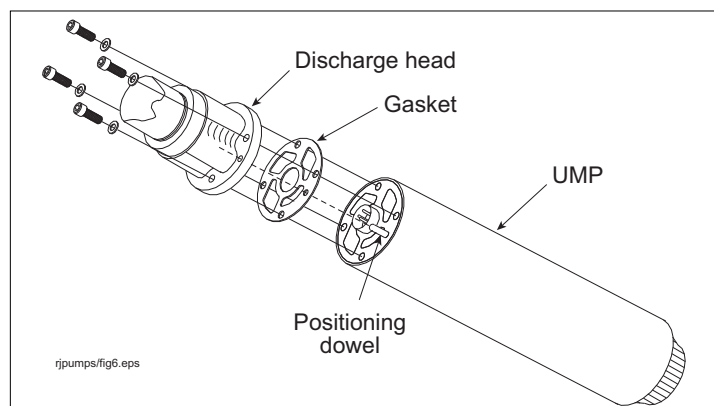

Figure 32. UMP Bolts and Gasket
9. Remove the old UMP by removing the four bolts holding the discharge head as shown in Figure 32. Discard the old gasket.